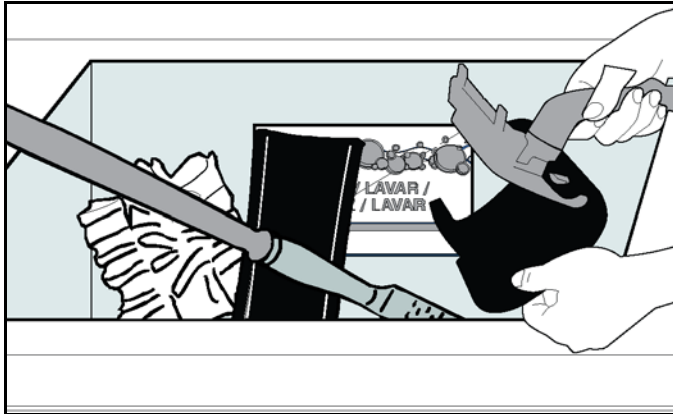

Figure-138
49. Wash, rinse, and sanitize all of the utensils and tools used to clean the grill at the three-compartment sink. See Figure-138.